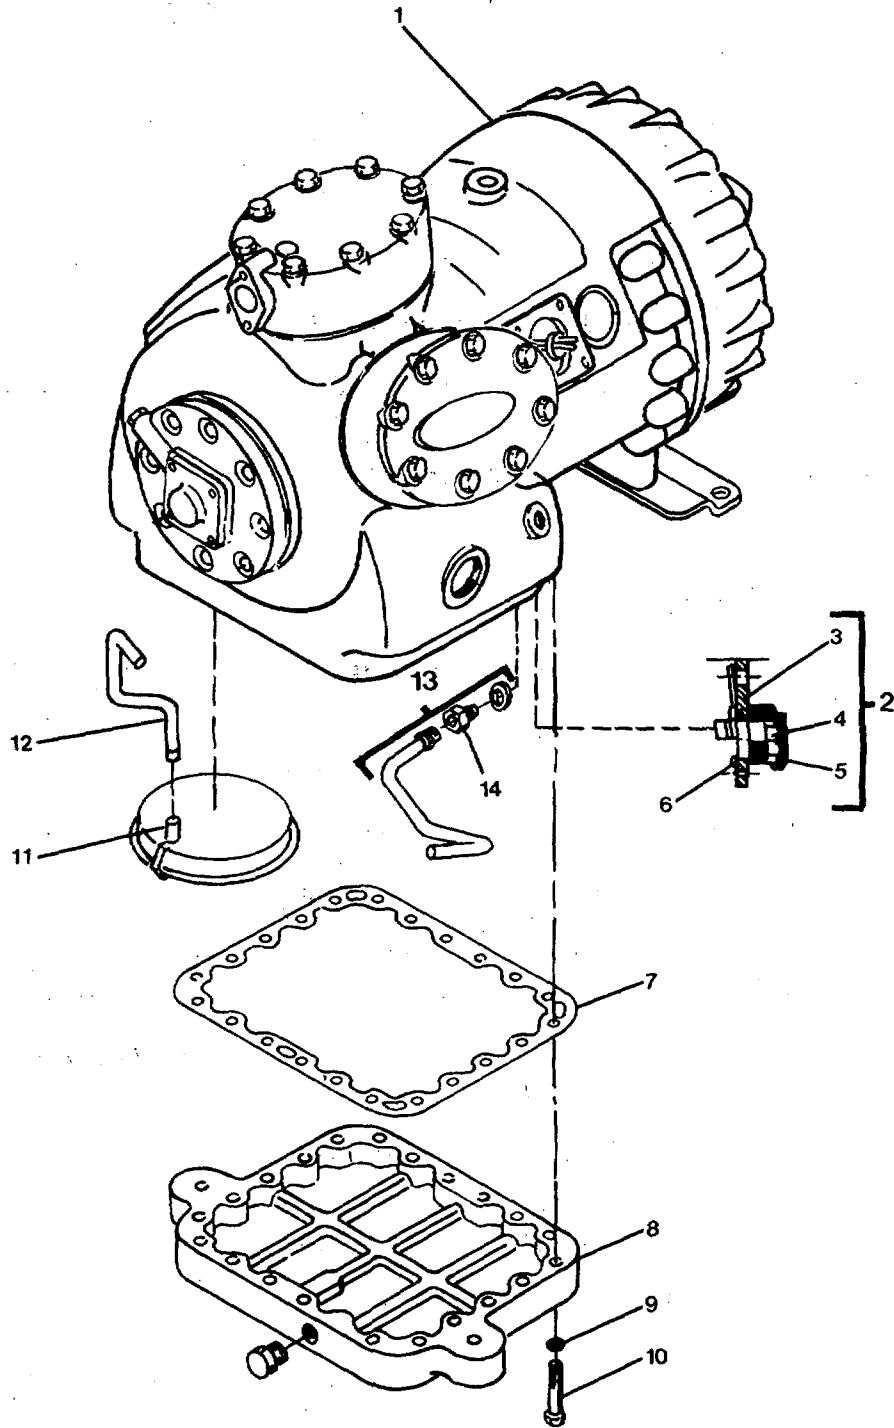

Figure 4-20. Replacing Crankcase Component .
- (1) Disconnect suction valve (19) from motor end cover (15) (Removal, step b., above).
- (2) Remove 18 capscrews (21) and washers (22) and remove motor end cover (15).
- (3) Remove gasket (14) and discard.
- (4) Remove suction strainer (13) from motor end cover (15) and clean with mineral spirits. Allow strainer to dry and coat with clean compressor oil. Install strainer back in motor end cover.
- (5) Make sure gasket sealing surfaces are clean.
- (6) Coat gasket (14) with clean compressor oil.
- (7) Align gasket (14) and install motor end cover (15) with 18 capscrews (21) and washers (22). Torque capscrews alternately to following values:
- g. Replace compressor plate gasket (7, FIGURE 4-20), assembly relief valve (13) and/or safety relief valve (14), and check valve piston (4) and spring (5):
- (1) Remove compressor (See removal steps, above).
- (2) Remove 22 capscrews (10) and washer (9).
- (3) Remove plate (8) and gasket (7) from compressor (1).
- (4) Disconnect oil strainer (11) from oil suction tube (12) from inside crankcase. Disconnect oil suction tube (12) from oil pump.
- (5) Remove assembly relief valve (package) (13), along with safety relief valve (14) from inside crankcase.
- (6) Remove two screws (6) from mounting package (3) and remove check valve assembly (2).
- (7) Remove check valve piston (4) and check valve spring (5).
- (8) Pre-lube all parts with clean compressor oil.
- (9) Install new check valve spring (5) and check valve piston (4) in check valve assembly (2).
- (10) Install mounting package (3) with two screws (6).